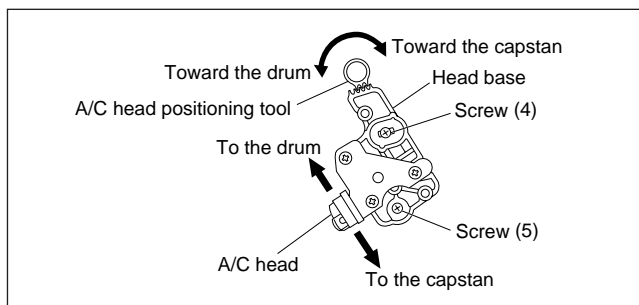

Fig. 2-3-3a
- (1) Play back the alignment tape (A1).
- (2) Apply the external trigger signal to D.FF (E), to observe the V.PB FM waveform at the measuring point (D).
- (3) Set the VCR to the manual tracking mode.
- (4) Loosen the screws (4) and (5), then set the A/C head positioning tool to the innermost projected part of the A/C head. (See Fig. 2-3-3a.)
- (5) Turn the A/C head positioning tool fully toward the capstan. Then turn it back gradually toward the drum and stop on the second peak point position of the V.PB FM waveform output level. Then tighten the screws (4) and (5).
- (6) Perform the tracking operation and make sure that the V.PB FM waveform is at its maximum.